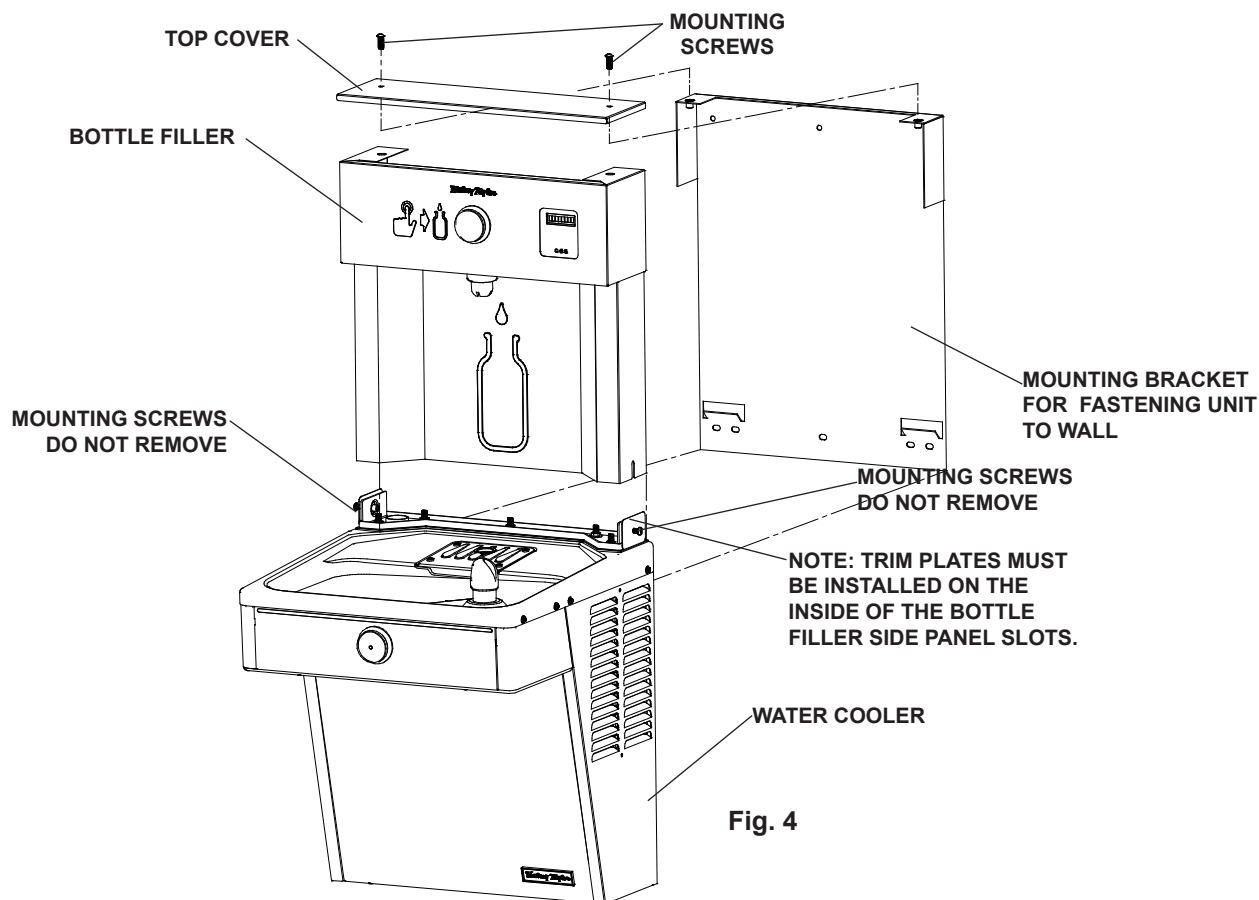

Fig. 4
- 4) **With the power cord and waterline** through the hole on top of water cooler, place Bottle Filler onto mounting bracket on basin. (See Fig. 4). Make sure bottle filler is installed properly on the basin gasket.
- 5) **Once Bottle Filler is installed on basin mounting bracket,** tighten the two screws (supplied) one on each side of the bottle filler. Install Top Cover on Bottle Filler (See Fig. 4) with two mounting screws (supplied). **Caution do not over tighten screws.**